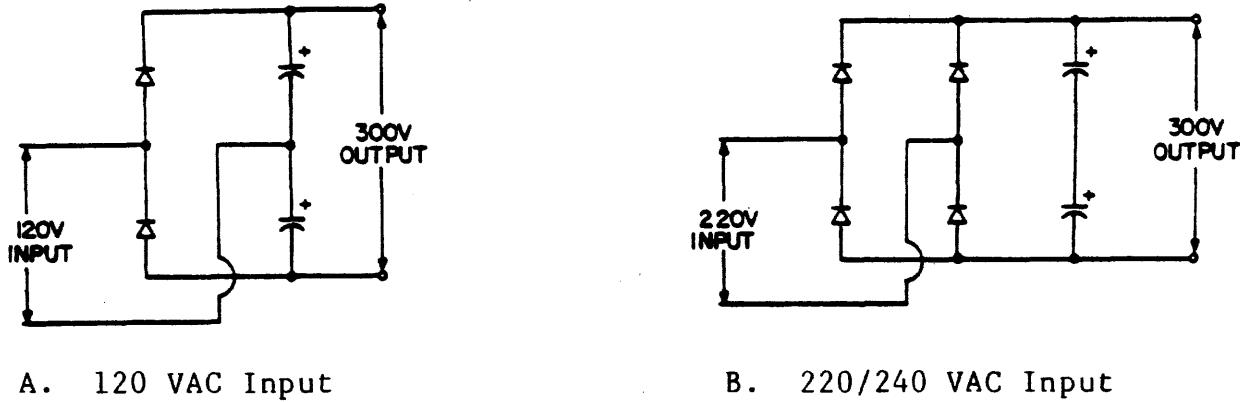

Figure 4-8. HIGH VOLTAGE GENERATION
4.3.3.4 Switching Converter (Refer to Figures 4-8 and 4-9) - The high voltage supply for the switching converter consists of two electrolytic capacitors charged through a diode bridge network. The output capacitors are configured such that during 120V operation, the circuit functions as a voltage doubler, with the output capacitors connected in series. During 220V operation, the output capacitors are connected in series, and the input line is full-wave rectified. The resulting effect is that an output voltage of approximately 300V is supplied to the switching converter, regardless of whether 120V or 220 VAC is supplied. A simplified diagram of output capacitors and bridge configuration is shown in the figures below.